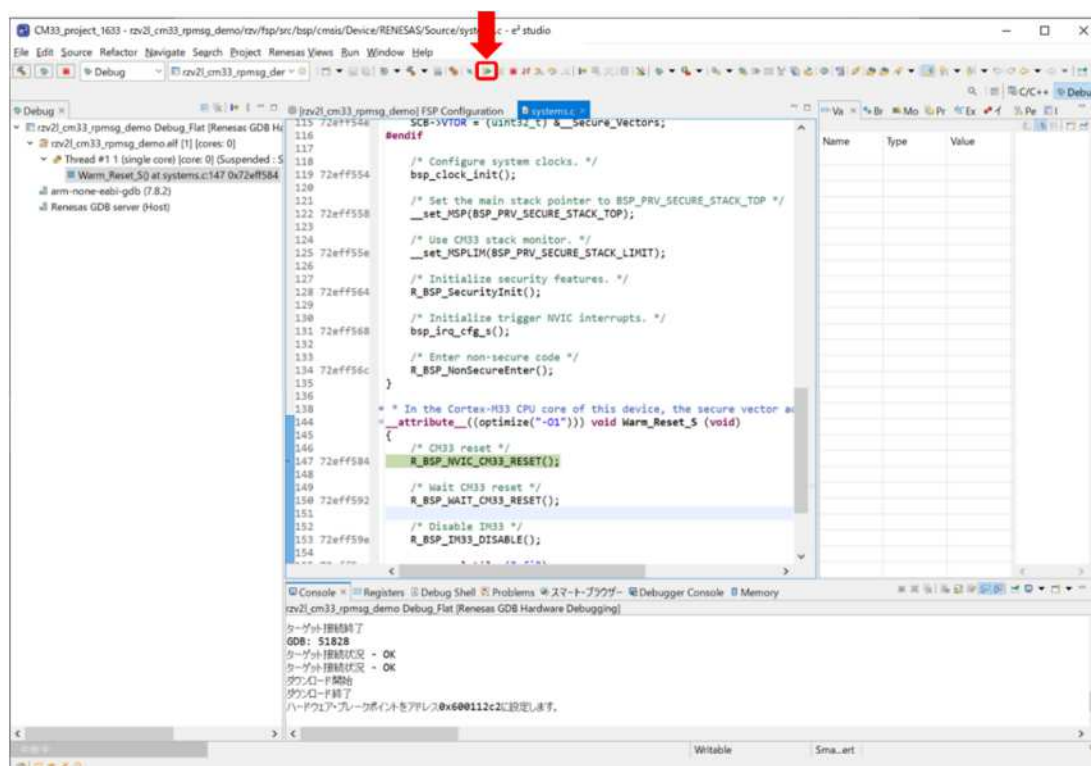

Figure 4-8. How to start to debug sample project (1)
- When Debug Perspective is opened, Program Counter (PC) should be located at the top of Warm_Reset_S function. Then, you need to press the button indicated by a red arrow in Figure 4-8.